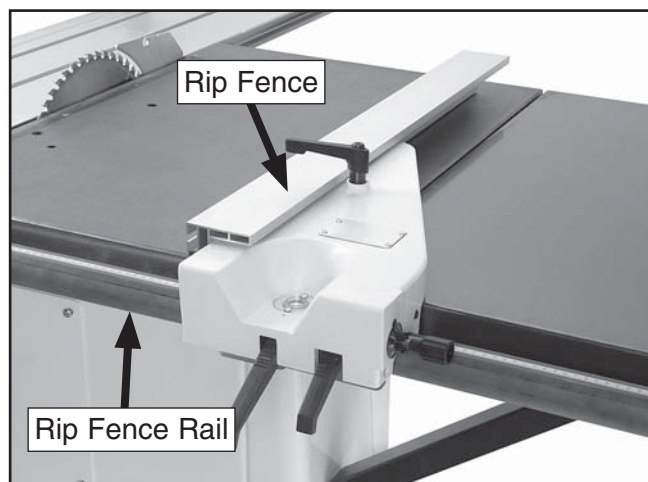

Figure 21. Rip fence assembly.
- Place the rip fence body onto the rip fence rail (**Figure 21**).